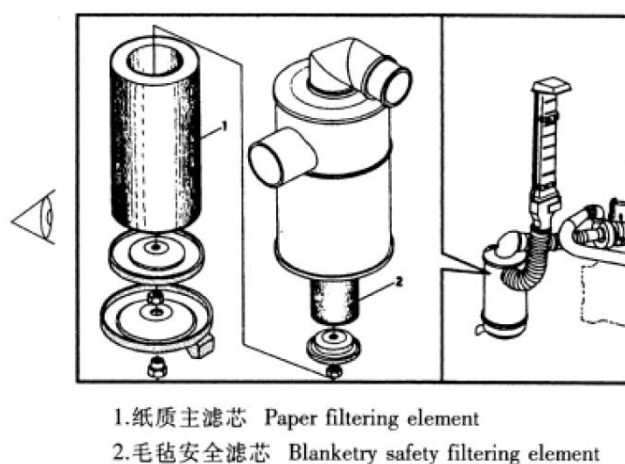

Figure 2-18 Air filter
- Check the air filter element (figure 2-18)